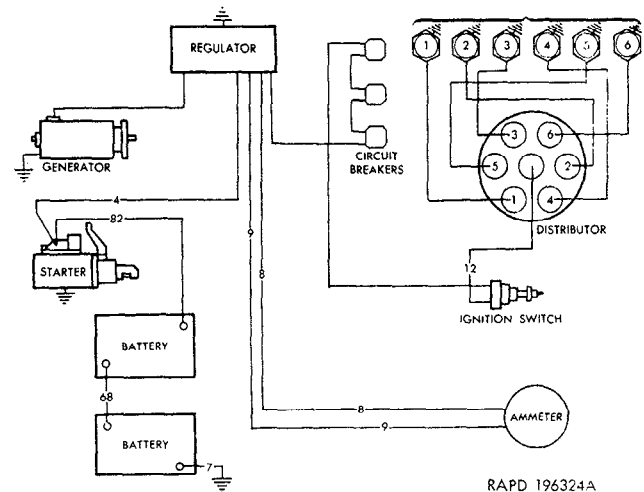

Figure 2-3. Ignition system wiring diagram.
a. *General.* This section provides information to locate and correct problems in the electrical system. A troubleshooting table (table 2-4) and diagrams showing locations of the various electrical components (fig. 2-3 through 2-6) are included.